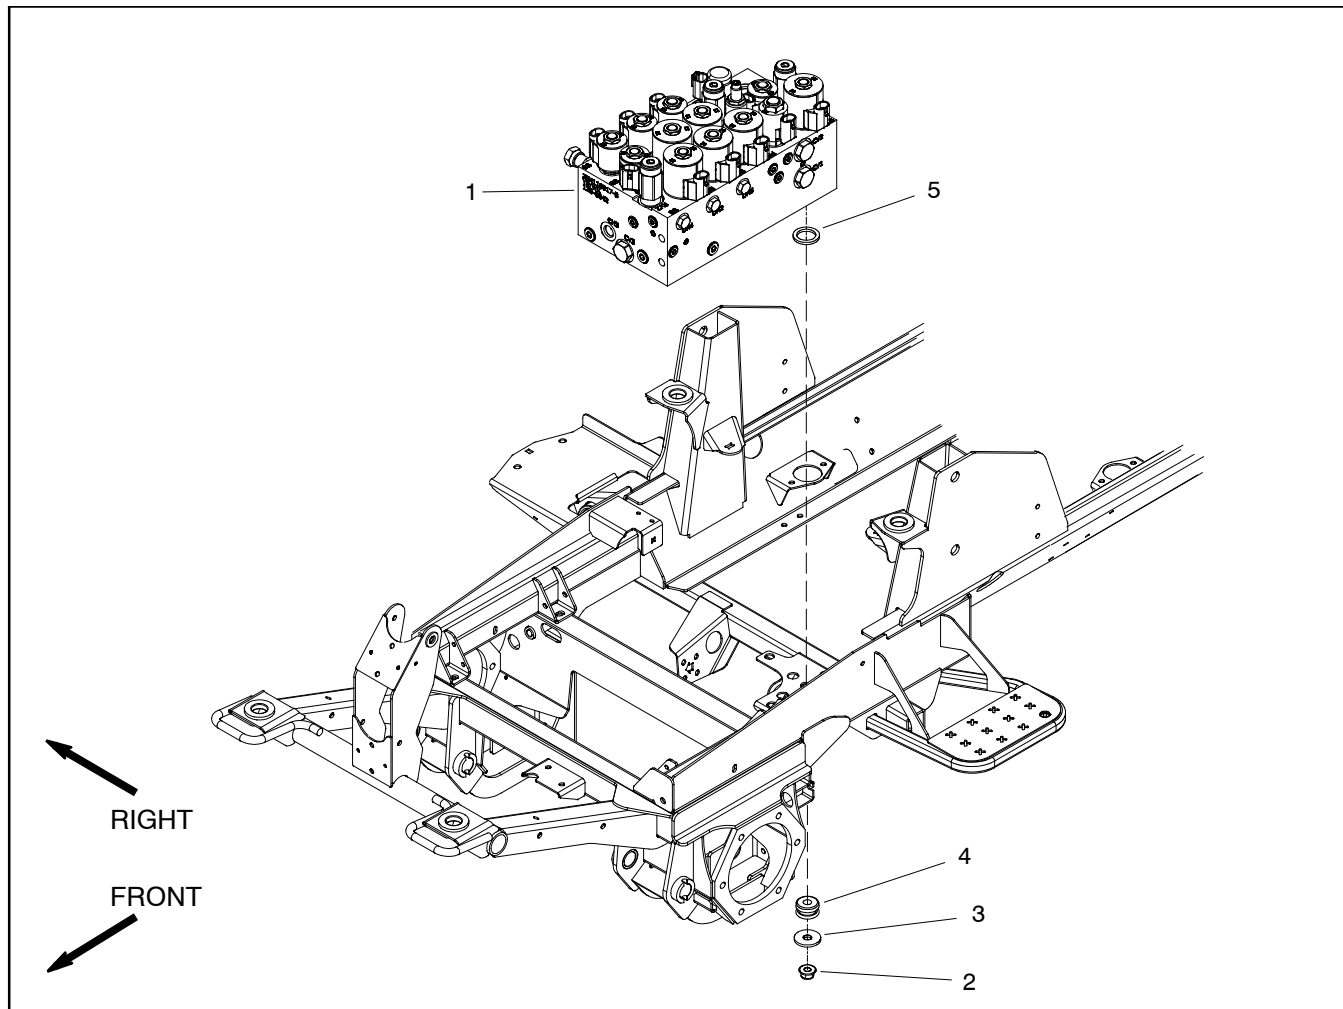

Figure 72
Removal (Fig. 72)
5. Remove combination manifold from the frame using Figure 72 as a guide.
Installation (Fig. 72)
2. Install combination manifold to the frame using Figure 72 as a guide.